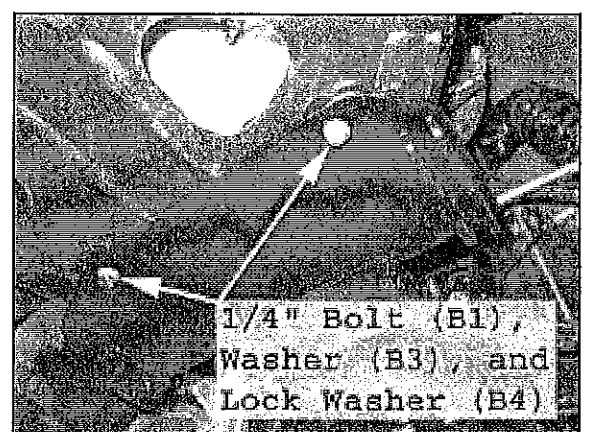

Figure 7 Add 1/4" Bolts and Washers
5. Attach the 1/4" dia-1" long bolt (B1), 1/4" flat washer (B3), and 1/4" lock washer (B4) through the rear of the Plow Mount (A1) as shown in Figure 7. The lock washer should be placed between the flat washer and the head of the bolt. Tighten until the plow mount is secure against the underside of the ATV.